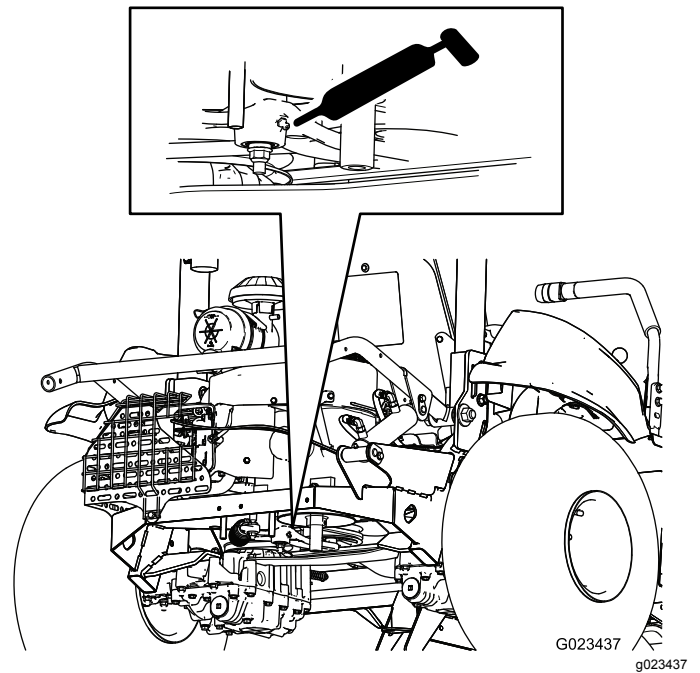

Figure 35
- Belt tensioner (1)—Figure 35